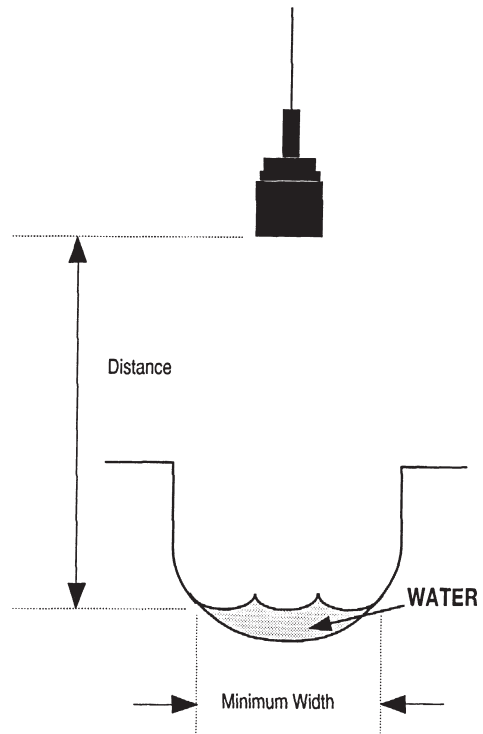

Figure 2-7 Small Pipes and Narrow Channels'
**Small Pipes and Channels** – Small circular pipes, narrow channels, and small flumes may also cause problems with ultrasonic distance measurement. Since the ultrasonic pulse expands outward at a beam angle of approximately 10° as it travels away from the ultrasonic level sensor, it may strike the sides of a channel or the sloping sides of a circular pipe with low flow. (See Figure 2-7). This can result in false echoes and incorrect level readings. The term “small channels” generally refers to “U” shaped channels and pipe inverts 10" in diameter and less. The term “small flumes” generally refers to 1" and 2" Parshall flumes. It should be noted that the level measuring point for many types of flumes (Palmer-Bowlus, Leopold-Lagco, etc.) is not in the flume, but upstream in the invert of the pipe; for these types of flumes the section of interest is in the pipe invert, not in the flume itself. Thus, care should be exercised in the use of 10" or smaller Palmer-Bowlus and Leopold-Lagco flumes.